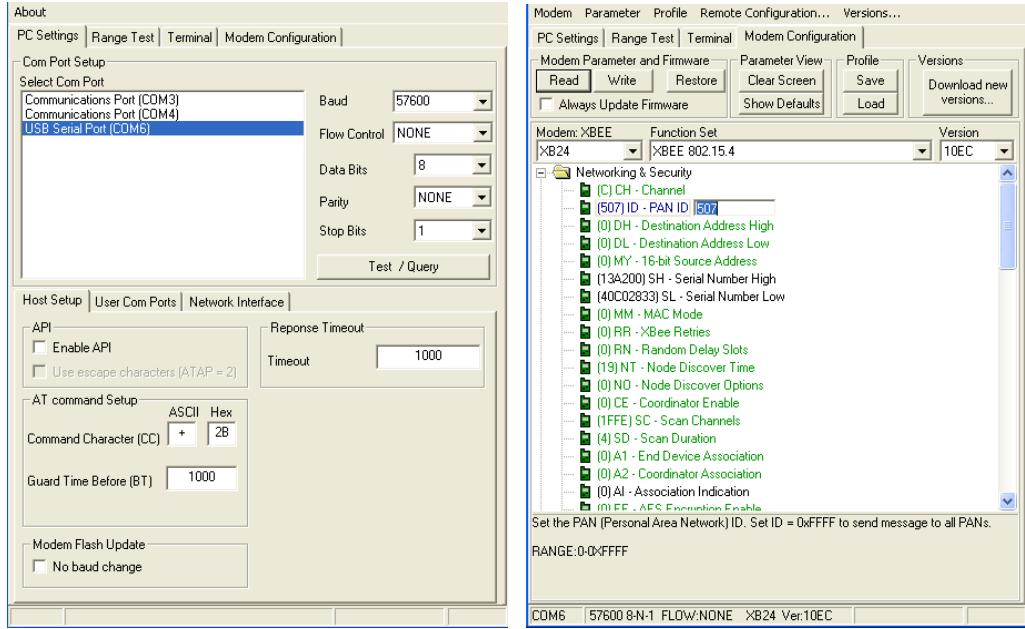

Figure 4: X-CTU: (left) main view for selecting ports; (right) configuration panel.
3. In the “PC Settings” tab, as seen in Fig. 4 (left), select the corresponding COM Port, e.g: “USB Serial Port (COM6)” (note that the port enumeration depends on the machine), and select the baudrate “9600” or “57600” (depending on the Xbee model). Test which baudrate works pushing the button “Test / Query” and checking the output message.
4. In the “Modem Configuration” tab, click “Read”: if everything works properly, you should see a list of modem parameters, as shown in Fig. 4 (right).